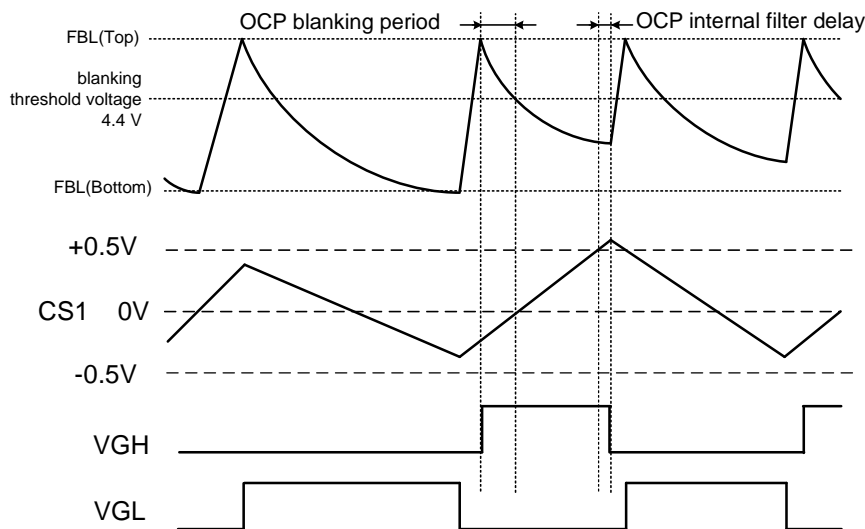

Fig. 7 OCP1 operation timing
**Fig. 7** shows the timing charts of **OCP1** operation and **Csst** charging detail is described in article **2.3.8**.